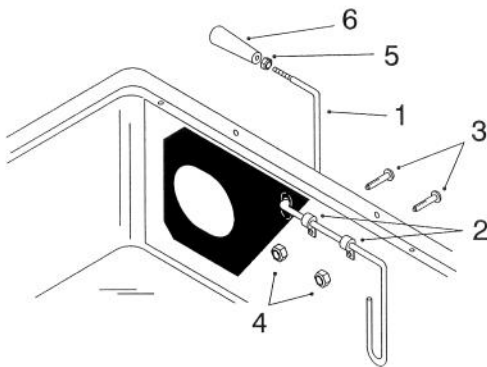

Figure 6
1. Install the "full-bag" indicator rod through the hole in the rubber seal and the slot in the bagger cover (Fig. 6). Mount the full-bag indicator rod against the bagger cover using two clips, 1/4" x 5/8" pan-head screws, and 1/4" nylon lock nuts (Fig. 6).
2. Screw the jam nut completely onto the indicator rod (Fig. 6). Then screw the handle (Fig. 6) close to the jam nut so you can read the decal from the operator's position. Tighten the jam nut up against the handle to lock it in place.